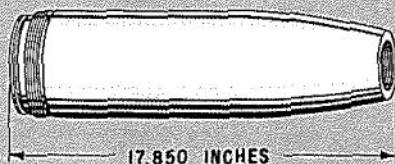

FIG. 5. 5.0-Inch Rocket Head Mk 24 Mod 0 (GP).
The Mk 24 general-purpose (GP) head is shown in Figure 5. This head may be fuzed for contact, proximity, or delayed detonation. The Mk 191 Mod 0 (BD) fuze is permanently assembled in the base of the Mk 24 Head. When used with a steel nose plug, the Mk 24 is a delayed-action warhead. The steel nose plug enables it to penetrate heavy targets, such as concrete bunkers and ships, and to detonate inside the target. The M 414 proximity fuze or the Mk 188 point-detonating fuze also may be used in this head with effectiveness. (See WARNING on page 32.)